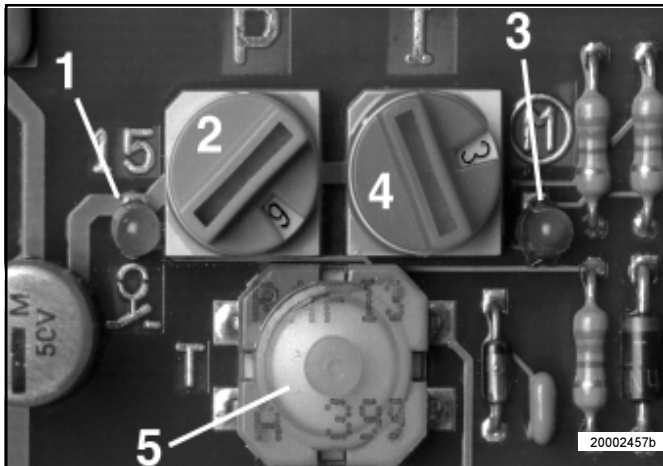

Fig. 28 - LED on the printed circuit board
Note: When the switch is on "0" a fault is shown at the right hand LED 3, see fig. 28.
Note: When the switch is on "0" a fault is shown at the right-hand LED 3 Fig. 28. At the same time the factory-set operating time is accepted.
- When one of the rotary switches 2, 3 Fig. 28 is on the „0“ setting a fault is shown at the right-hand LED 3.
Pushbutton 5 Fig. 28 continuously actuated (short circuit)
- To check whether power is applied to the printed circuit board, observe whether the LED 1 Fig. 28 is lit.